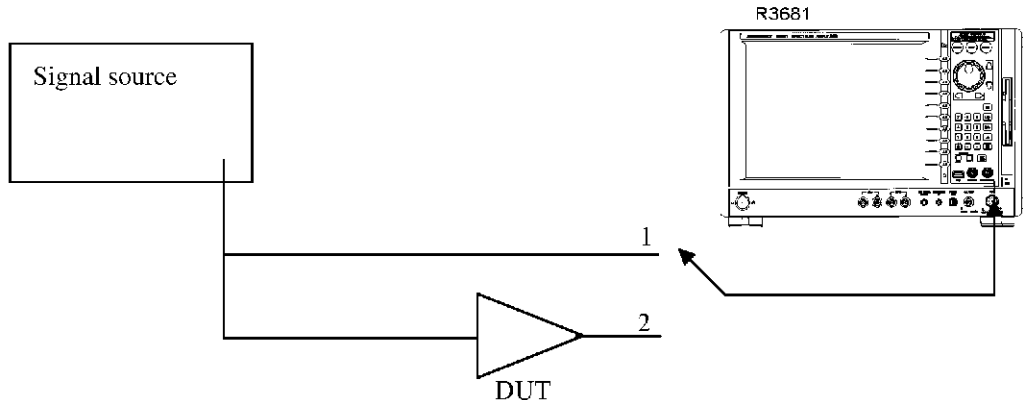

Figure 4-13 Connection Diagram for the Modulation Analysis that Uses the Equalizer
1. Set the signal path to 1 that is shown in Figure 4-13 and perform the measurement according to the procedures that are described in Section 4.1 or Section 4.2.
10. Switch the signal path that is shown in Figure 4-13 to 2.